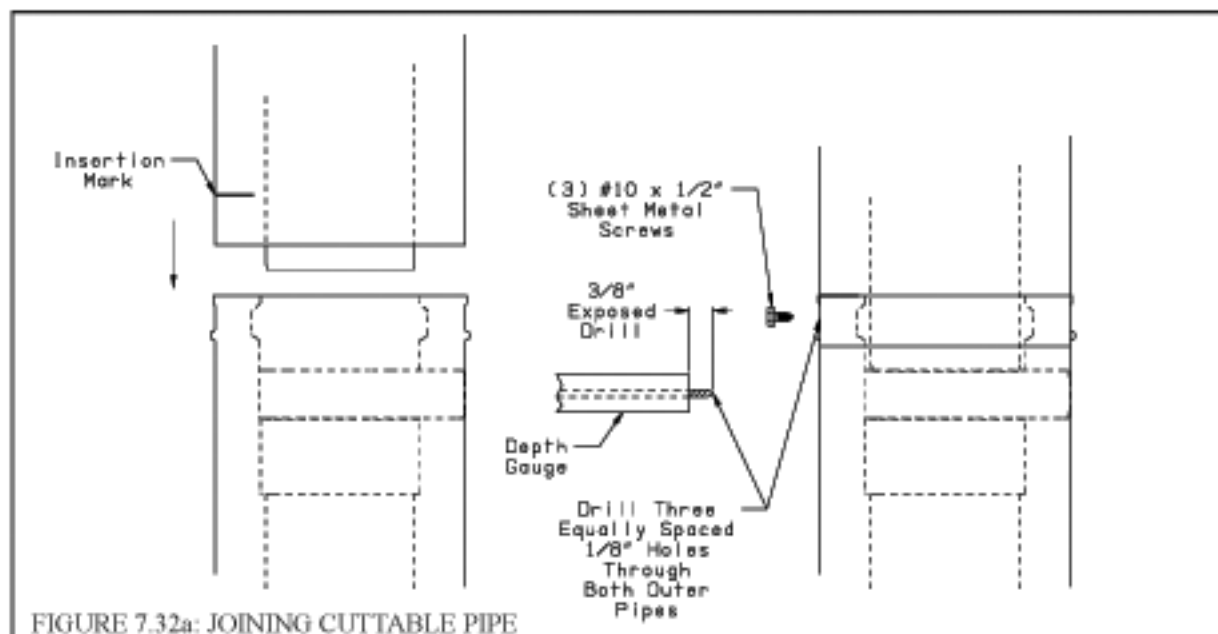

FIGURE 7.32a: JOINING CUTTABLE PIPE
- The male end of cuttable fittings must be held to the collar with three #10 x 1/2" sheet metal screws. Drill a 1/8" hole through both outer pipes to start this screw. **Use a drill stop or other means to ensure that the drill bit does not penetrate more than 3/8" into the outer pipe. Do not use a sheet metal screw longer than 1/2"** (Figure 7.32a).